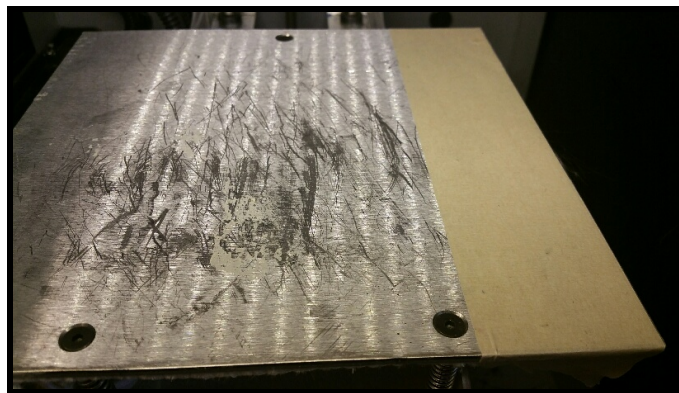

Figure 2.4: Tape Placed Length-Wise On Printer Surface
10. Place the piece of tape on the bed in the length-wise direction (see Figure 2.4).